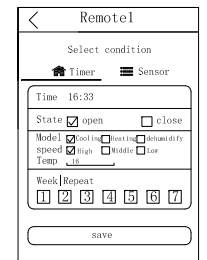

Fig. 9
- b. Press “+” at the top right corner to access to the interface as Fig. 9. User can add timer or sensor control in the APP. Press “Save” to save all the settings.